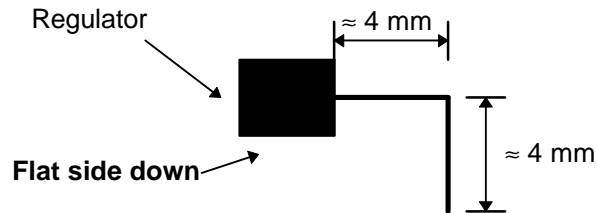

Figure 2: Formation of regulator leads
- ❑ Form and trim the leads of the replacement regulator. Refer to Figure 2.